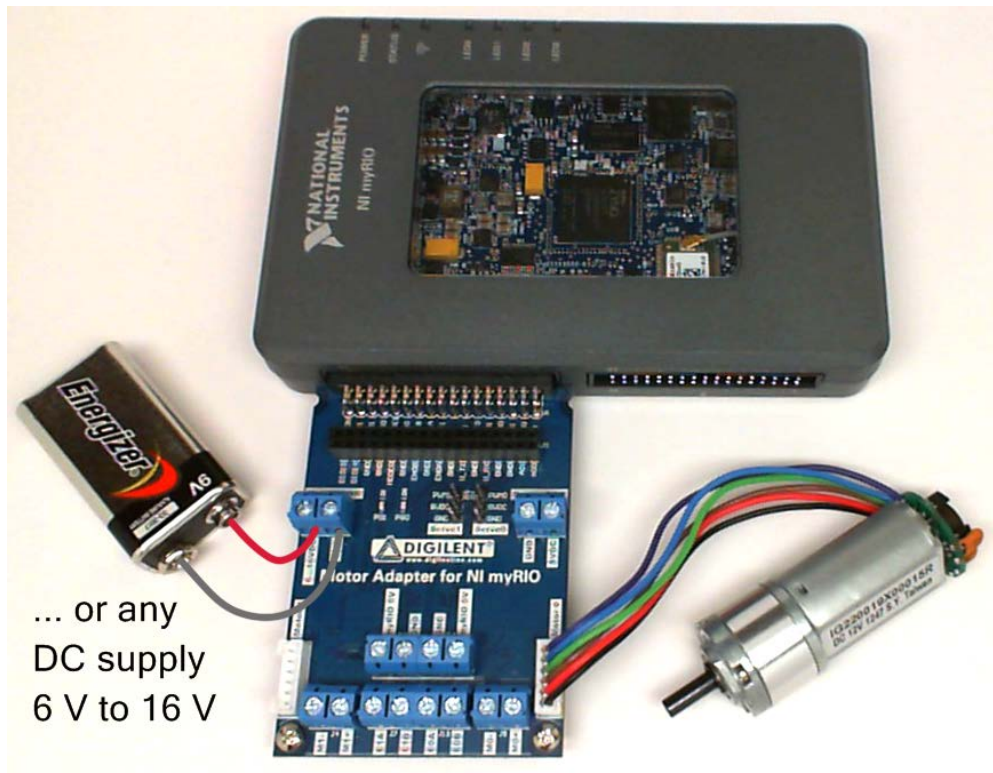

Figure 18.2: Demonstration circuit for motor adapter and geared motor: connected to NI myRIO MXP Connector A with motor and motor power supply connections.
**Build the interface circuit:** Refer to the diagram shown in Figure 18.2 on the next page. Simply connect the Motor Adapter to MXP Connector A, attach the geared motor, and attach the power supply as shown. Use a small Phillips or straight-bladed screwdriver to loosen and tighten the screws on the motor supply voltage connector.